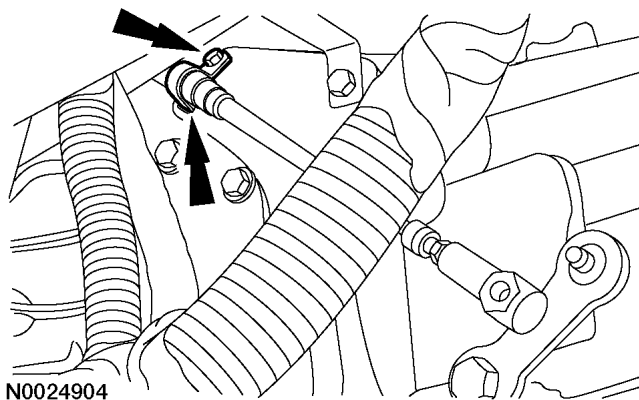

Figure 2 Remove Clamp from Shift Cable (Arrows)
3. Remove the shift cable clamp from the transmission housing (Figure 2). Remove the clamp from the shift cable.